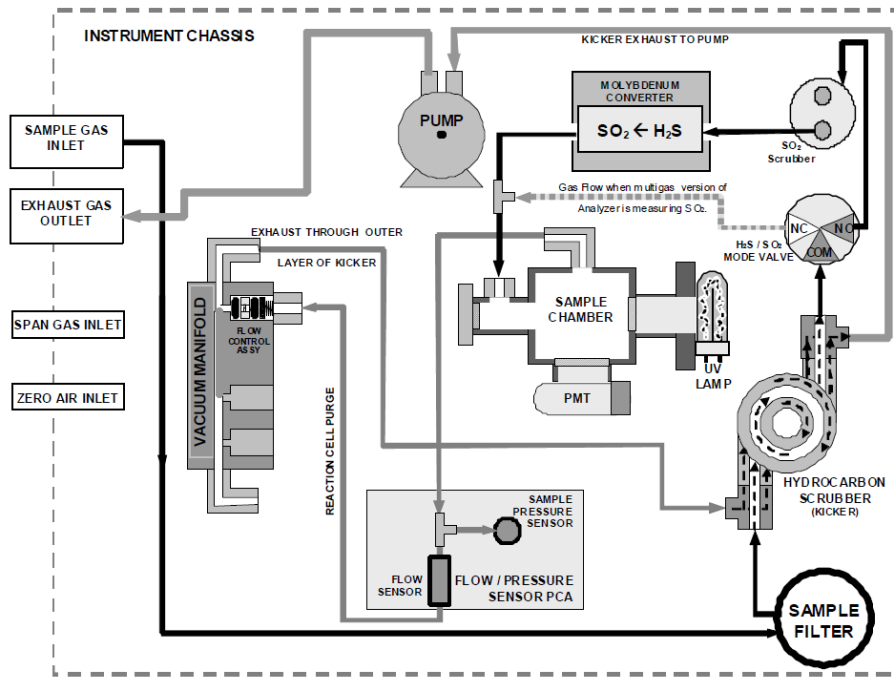

Figure 2.1 Schematic of the sampling flow path.
- 2.2 During the sampling, ambient air is drawn (in series) through: a sample particulate filter to remove ambient particles, a hydrocarbon scrubber to remove hydrocarbons, and finally a SO₂ scrubber to remove the ambient SO₂ prior to introducing into the chemical converter. The sampling flowrate is 700 ml/min. A schematic of the sampling flow is shown in Figure 2.1.